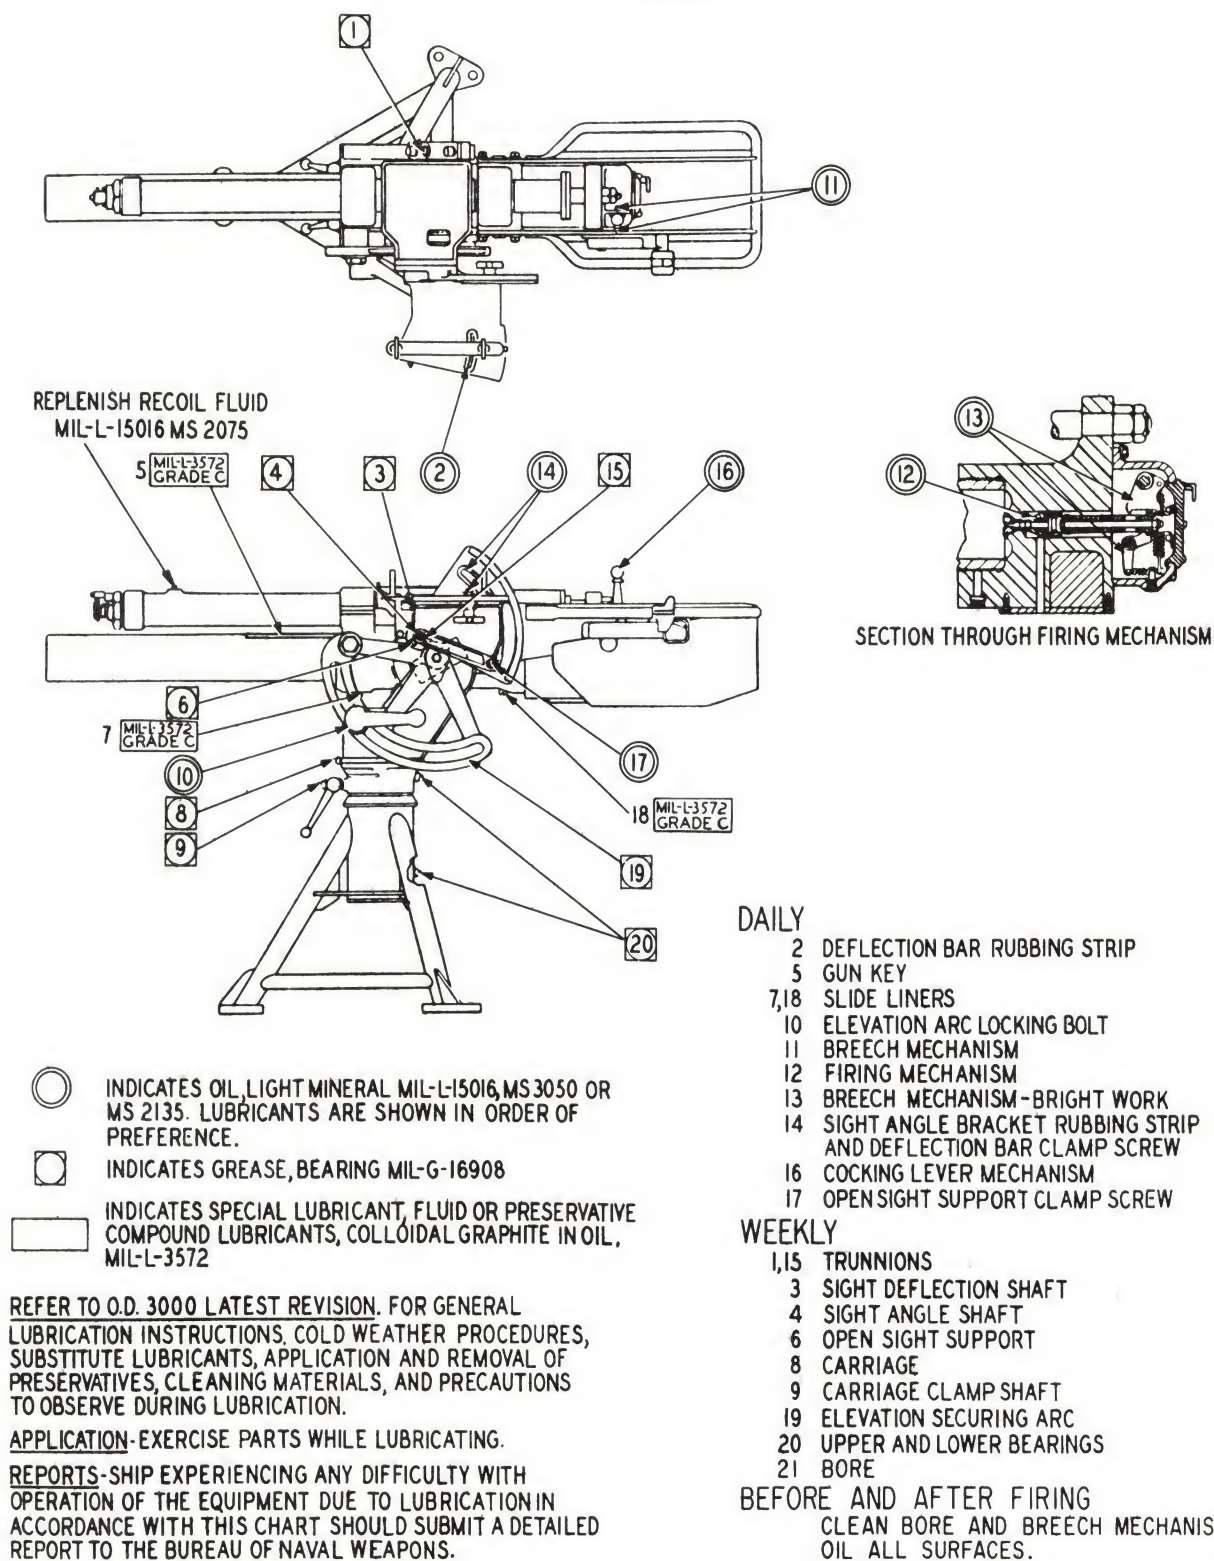

Figure 6-2. 81-MM Mortar Mk 2 Mod 0 Lubrication Chart
6-9. The mortar must be inspected after maintenance to insure that all exposed surfaces are covered with a protective coating of paint, light oil, grease or other corrosion preventives (see figure 6-2). Where rust, paint flaking, or blisters appear, they must be removed to bare metal before applying a protective coating. Painted surfaces that are scratched, marred or otherwise defective must be thoroughly cleaned of grease or oil and the area repainted. Do not paint, deface or obscure the instruction plates. All bright metal work must be coated with a film of light oil.
6. Lubricate barrel, applying a film of light oil (see figure 6-2).
6-17. Pull out cover lock (18, figure 7-5) and remove firing mechanism and cover assembly (2). Disassemble (refer to paragraph 6-46) and clean with solvent, PS661. Dry with clean cotton waste and lubricate in accordance with lubrication chart (figure 6-2).
4. Remove the drain screw (1).
5. Run oil MIL-L-15016 MS 2075 into the recoil cylinder until it runs from the drain hole (see figure 6-2).
6-22. LUBRICATION INSTRUCTIONS (See figure 6-2.)